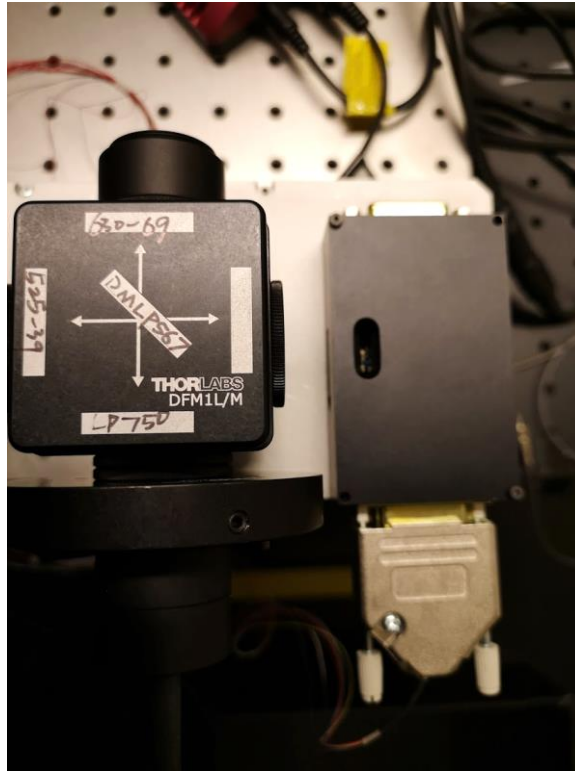

Figure 20: Placement of controlling module next to the detection module.
- Step69.** Mount the connector socket (item 48) into the backshell (item 47).
- Step70.** Attach 8 BNC cables (item 95) for Signal-Input to the DSUB15.
- Step71.** Repeat Step70 for output side, but merging the 6 single wire cables (item 50) that will connect to the miniscope
- Step72.** Add a 6-pin connector for MEMS (item 49) at the other end of the gathered wires of Step67.
- Step73.** Close the control box with lid (item 29).
- Step74.** Mount controlling module next to the detection module, on top of coupling box lid as shown in Fig.20 using a M4 capscrew.